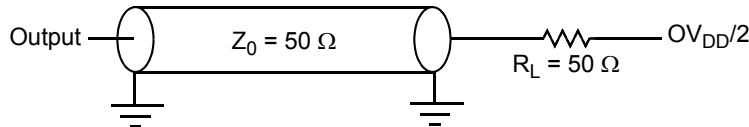

Figure 32. AC Test Load for the JTAG Interface
1. All outputs are measured from the midpoint voltage of the falling/rising edge of t_{TCLK} to the midpoint of the signal in question. The output timings are measured at the pins. All output timings assume a purely resistive 50-Ω load (see Figure 32). Time-of-flight delays must be added for trace lengths, vias, and connectors in the system.
2. The symbols used for timing specifications follow the pattern of $t_{\text{(first two letters of functional block)(signal)(state)(reference)(state)}}$ for inputs and $t_{\text{(first two letters of functional block)(reference)(state)(signal)(state)}}$ for outputs. For example, t_{JTDVXH} symbolizes JTAG device timing (JT) with respect to the time data input signals (D) reaching the valid state (V) relative to the t_{JTG} clock reference (K) going to the high (H) state or setup time. Also, t_{JTDXKH} symbolizes JTAG timing (JT) with respect to the time data input signals (D) went invalid (X) relative to the t_{JTG} clock reference (K) going to the high (H) state. Note that, in general, the clock reference symbol representation is based on three letters representing the clock of a particular functional. For rise and fall times, the latter convention is used with the appropriate letter: R (rise) or F (fall).